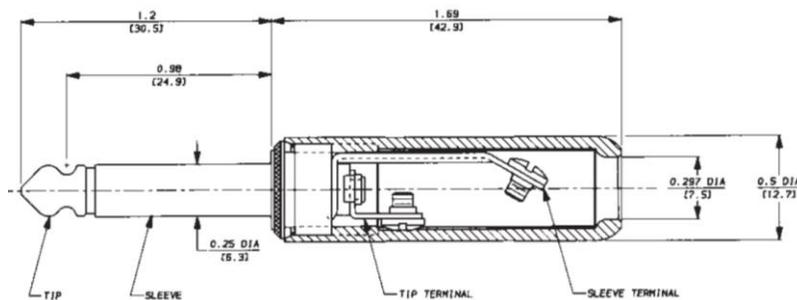

Figure 10, Switchcraft Plug Physical Dimensions
Note that these Switchcraft brand connector handles are cylindrical in nature providing a consistent outside diameter (OD) from top to bottom (see Figure 10). This allows multiple connectors to be plugged into the SMx without interference. Many other manufacturers or brands of ¼" mono plugs have conical handles where the OD gets larger as it gets closer to the connector. This "larger" diameter handle causes interference when plugged in side by side on an SMx breakout box and therefore CANNOT be used. The maximum diameter of a Switchcraft plug is ½" as show below. This is the maximum diameter for a connector to plug into a SMx breakout box.